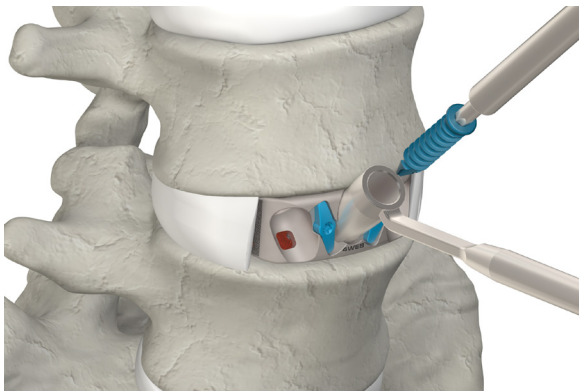
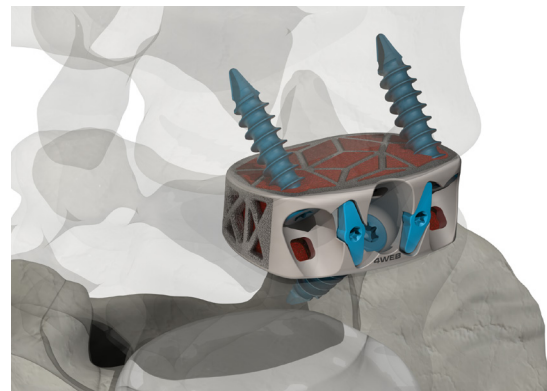

Figure 34
Figure 35
- ▲ Select the desired length screw and fix it to the distal end of the driver. Insert the screw through the Freehand Guide into the screw hole of the implant (Fig. 34). Drive the screw until it is fully seated in the implant. Repeat this step for all three screws (Fig. 35).